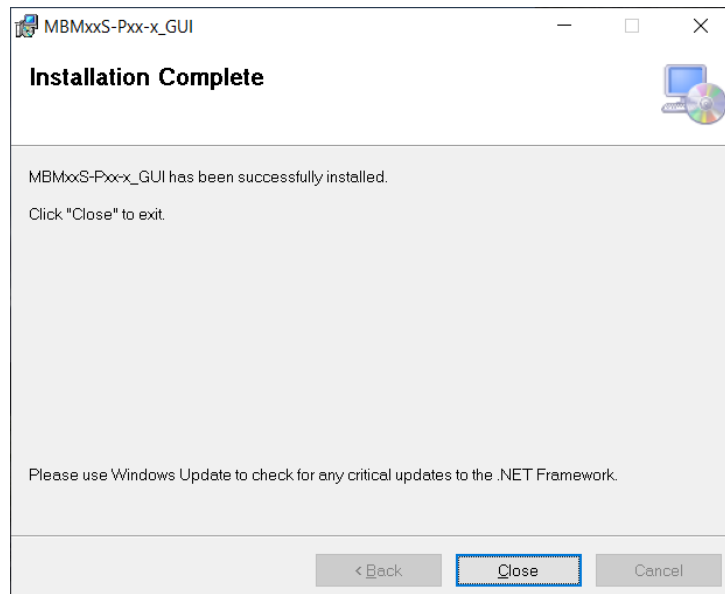

Figure 18: GUI Set-Up Success
4. Wait for the status screen to verify that installation is complete (see Figure 18).